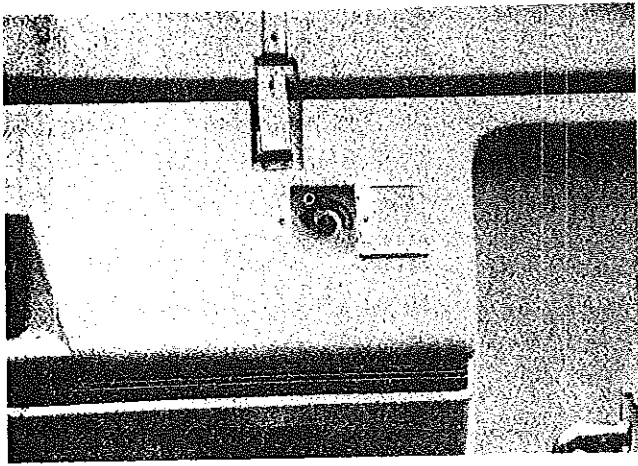

FIGURE 41
33. On Pioneer models, rotate the crank handle clockwise slightly to relieve the tension on the crankshaft hook. Disengage the crankshaft hook. On Americana models, turn the posi-action control handle and the safety latch counterclockwise to allow the top to be lowered. See Figures 41 and 42.